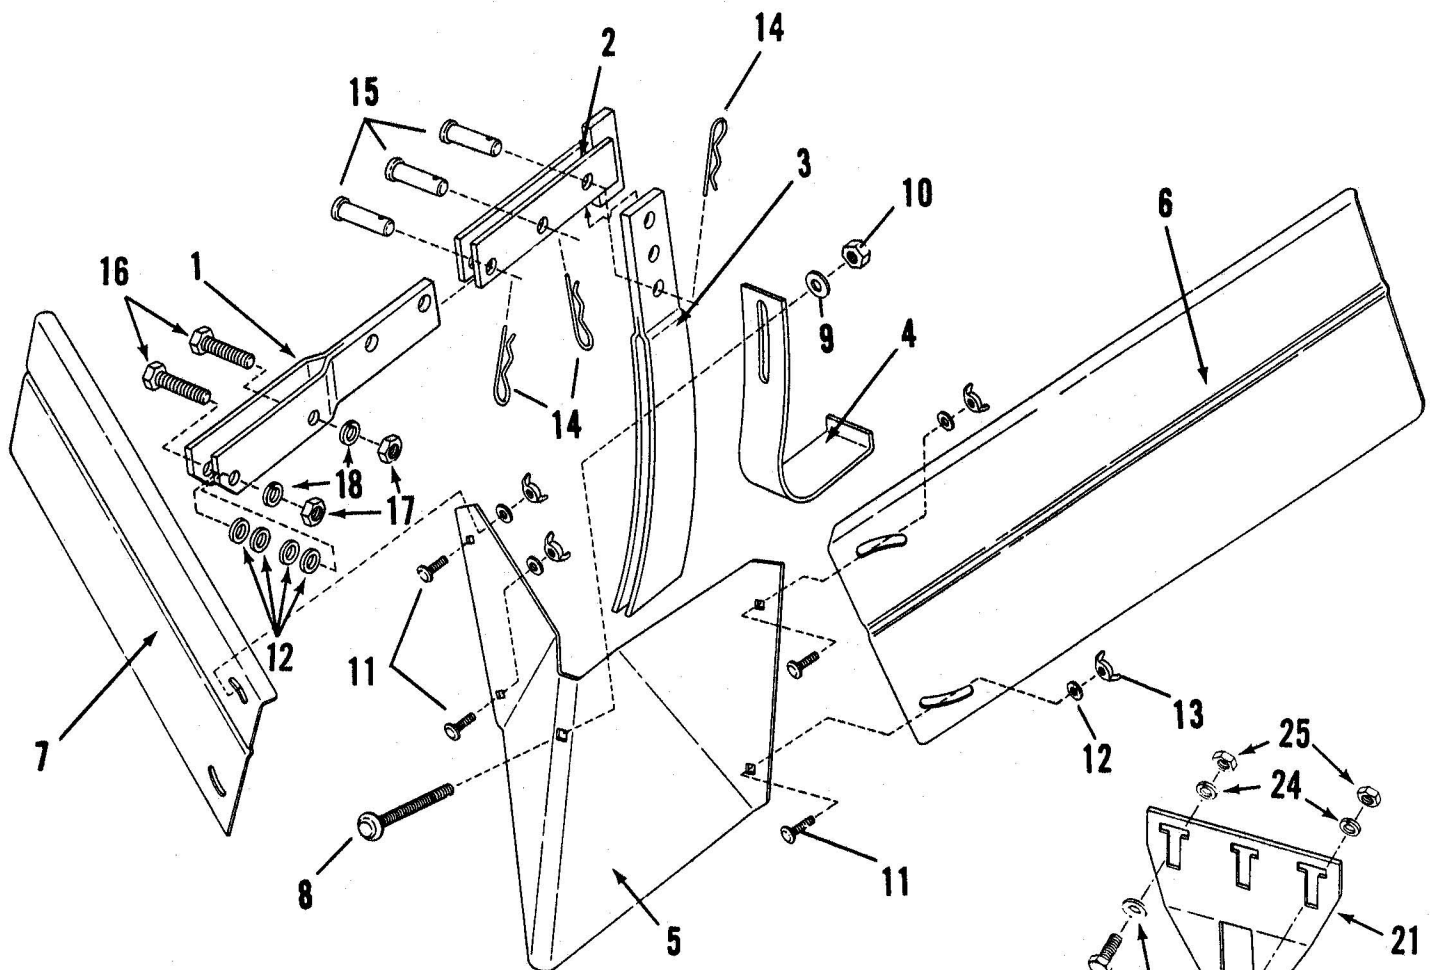
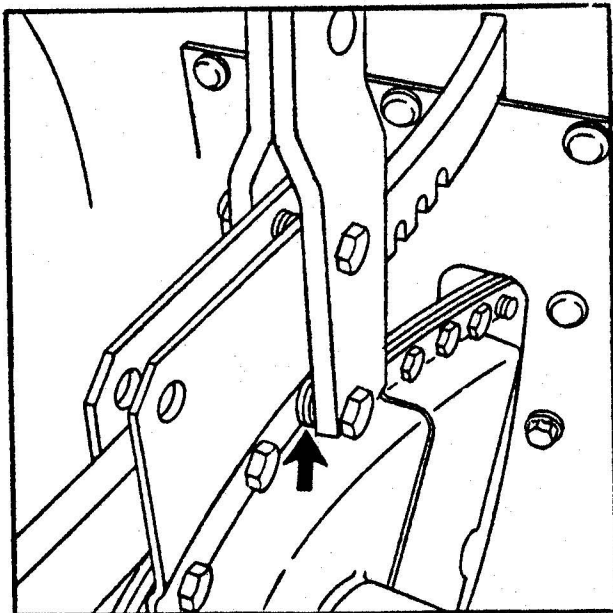

FIGURE 1: KIT COMPONENTS & ASSEMBLY SEQUENCE
FIGURE 3: SPACER WASHERS BOTH SIDES
STEP 2: Attach the clevis bracket (item 1) to the depth bar retainer and chain case using the two 5/16x1-1/2" hex head bolts, lockwashers and hex nuts (items 16, 17 & 18 figure 1). **NOTE:** Install two of the 5/16 flat washers on each side of the chain case to act as spacers as shown in figure 3. The clevis bracket can remain on the tiller permanently!